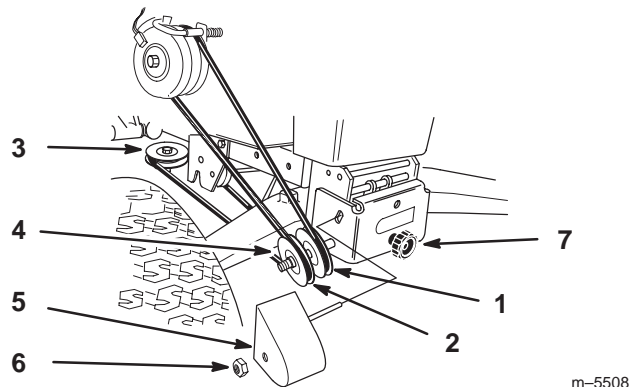

Figure 8
11. Route belt around V and flat pulleys and loop over center mower spindle, top pulley.(Fig. 8).
12. Check that spacer is on shaft and install belt cover with rod in hole. Secure with locknut (Fig. 8).
13. Turn knob counterclockwise to tighten belt (Fig. 8). Tighten until there is 1 in. (26 mm) belt movement between engine clutch and idler pulley when slight pressure is applied to the belt.